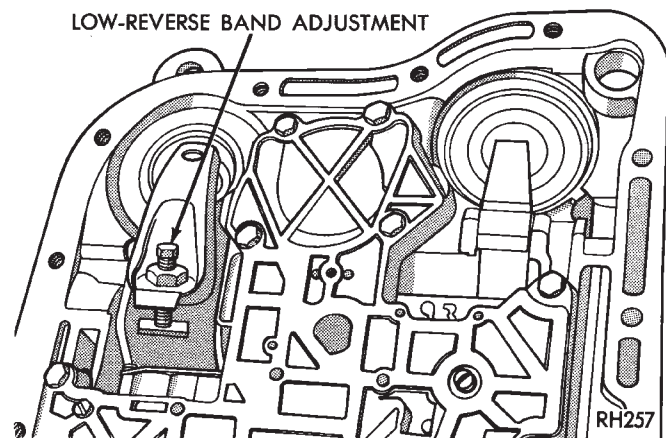

Fig. 259 Rear Band Adjustment Screw Location
- (1) Raise vehicle.
- (2) Remove transmission oil pan and drain fluid.
- (3) Loosen band adjusting screw locknut 5-6 turns. Be sure adjusting screw turns freely in lever.
- (4) Tighten adjusting screw to 8 N·m (72 in. lbs.) torque (Fig. 259).